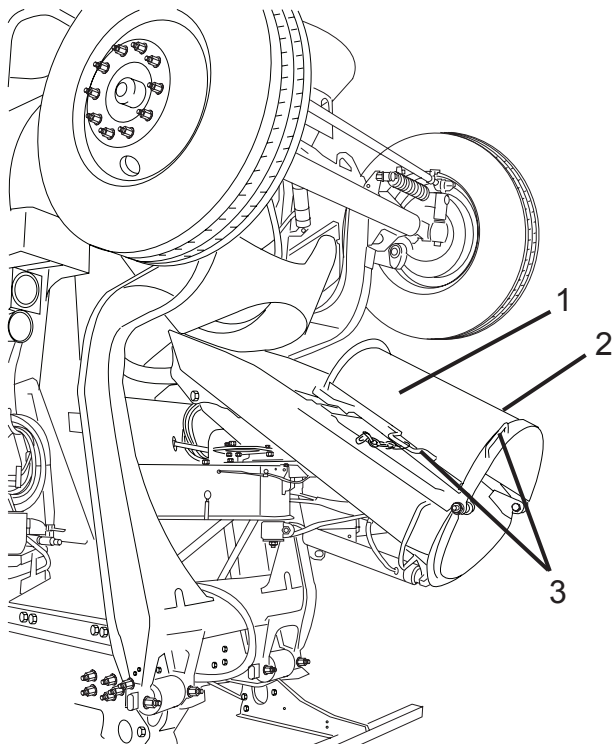

Figure 91
2. Disconnect the retaining chain (Figure 91, Item 1) from the fold-over chute (Figure 91, Item 2).
3. Grasp the fold-over chute by the handles (Figure 91, Item 3), and pivot the fold-over chute down until it firmly engages the main chute.